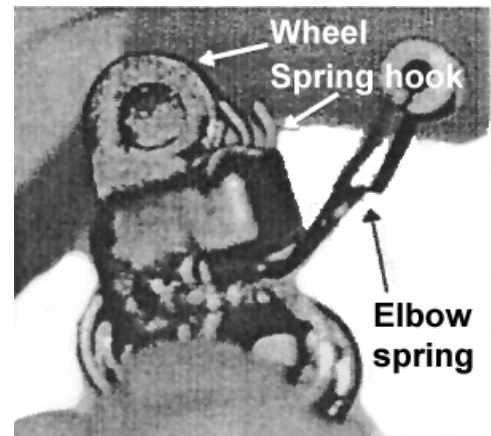

Figure 46
- Place the hooks of the *catch elbow spring* over the horizontal bar of the *catch*. Holding the *catch* with its wheel up and to the right, the hooks of the *elbow spring* come from the front of the bar and over (Fig. 46). This will align the *coil* and *bushing* with the *catch axle holes*.